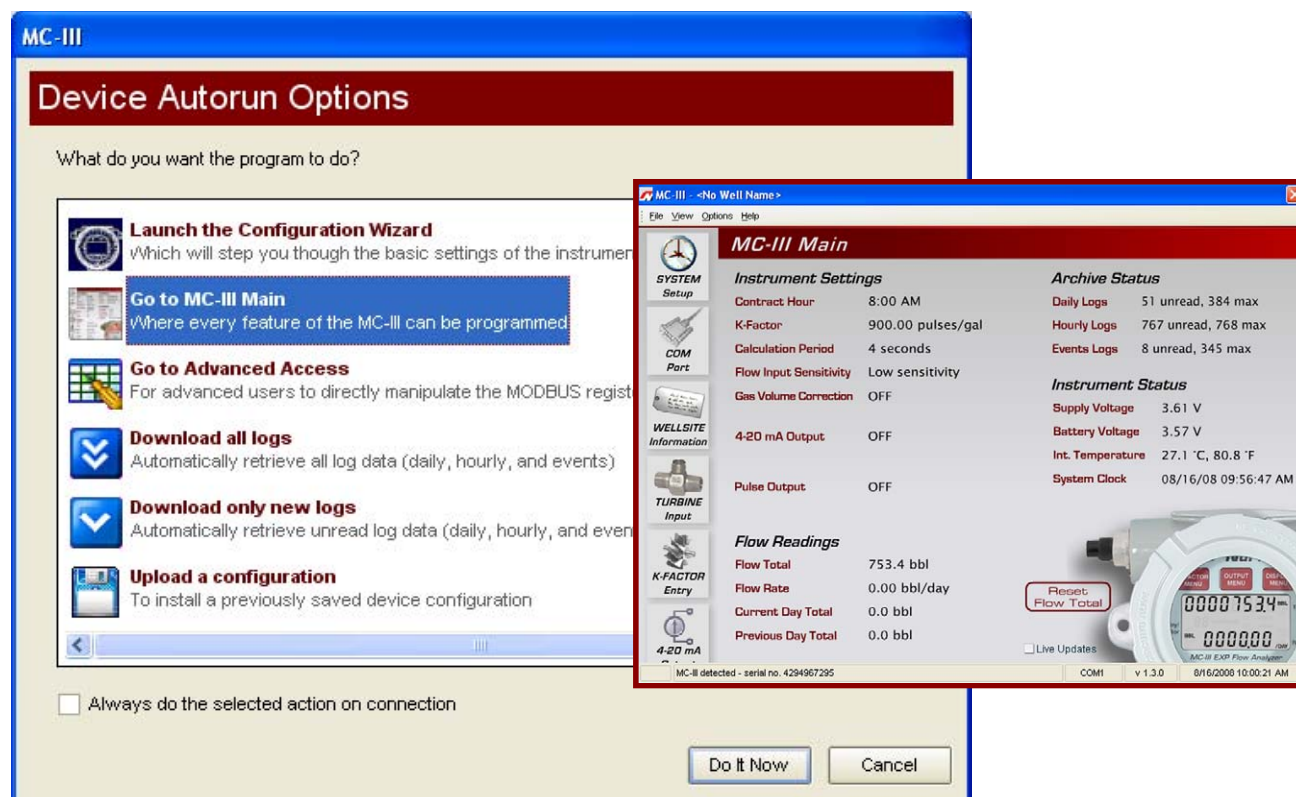

Figure 4.12—MC-III Main configuration option for complete access to configurable parameters
- The MC-III Main screen (Figure 4.12, page 47) gives users complete access to all configuration parameters.